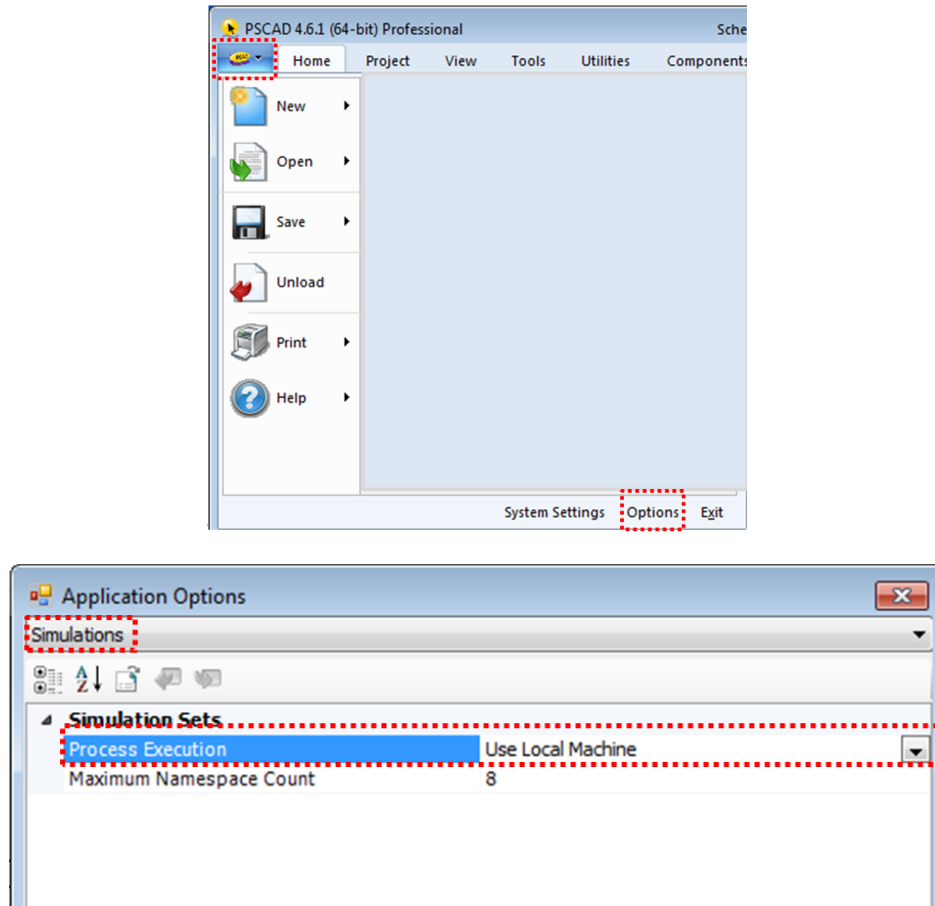

Figure 11: Setting the Process Execution field
- Set the Process Execution field as per Figure 11.